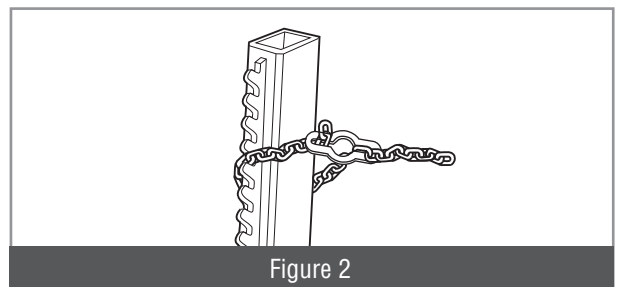

Figure 2
- For fixing a chain to the column of pulling device use handy link (figure 2).